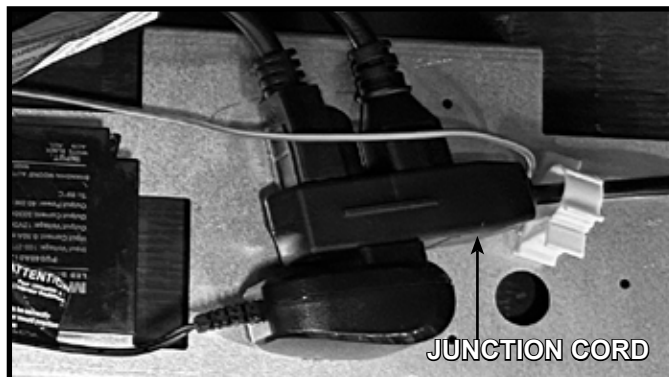

Figure 8.2 Junction Cord Detail
3. The electrical components can now be accessed as shown in Figures 8.2 and 8.3.